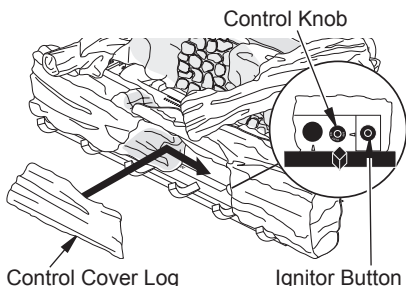

Figure 25 - Control Knob (Shown in the OFF Position) and Ignitor Button Location
3. Remove control cover log (see Figure 25).
13. Replace control cover log (see Figure 25, page 18).